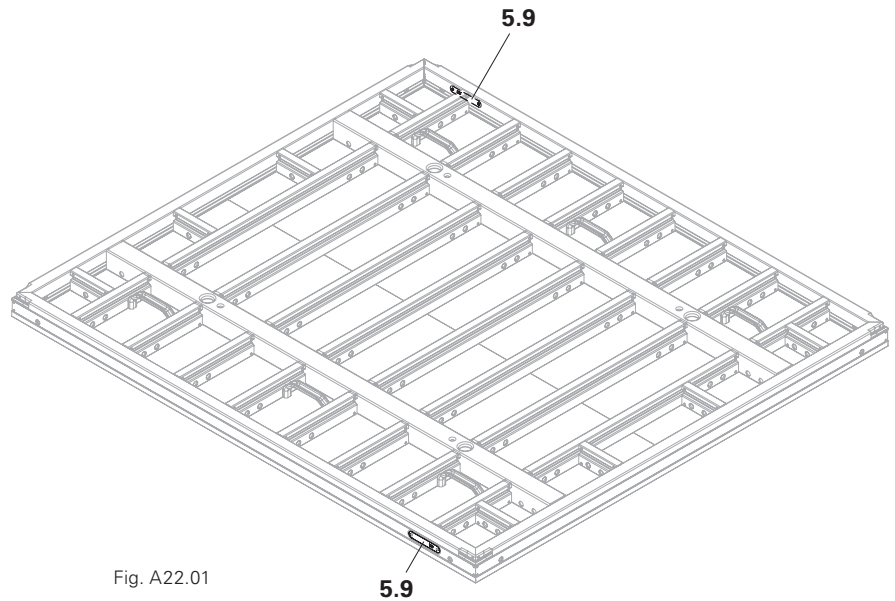

Fig. A22.01
Dual-frequency RFID transponders (5.9) are installed on both long sides of a Panel MX-2 (5). (Fig. A22.01)